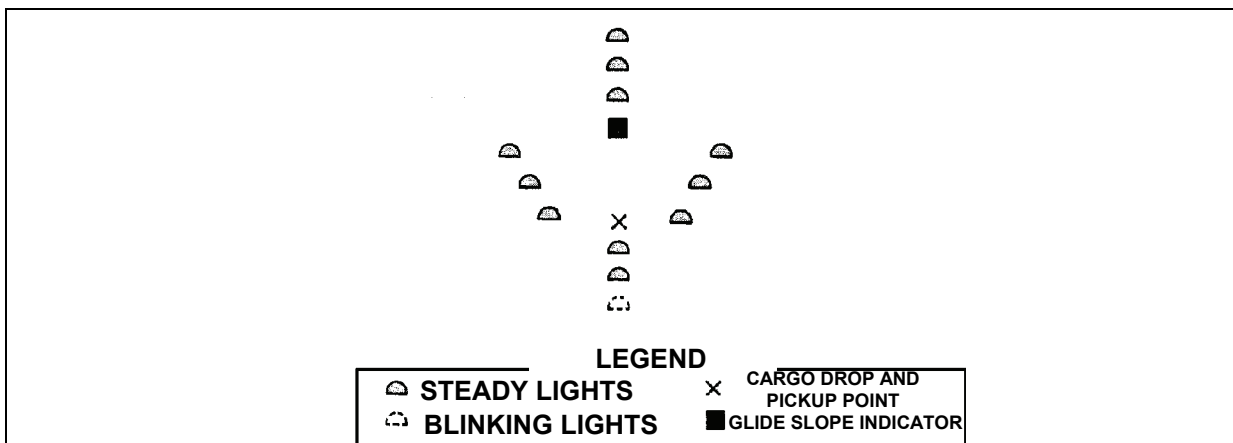

Figure 4-15. GAIL System
- Glide Angle Indicator Light (GAIL).** (USMC) The GAIL system is used whenever possible (Figure 4-15). The GAIL is positioned to project its beam along the preferred direction of approach. The glide path angle must provide clearance over the highest obstacle along the avenue of approach. Glide path angles from 3 to 8 degrees are common and acceptable. Angles greater than 8 degrees are considered too steep and could cause difficulty in maintaining the aircraft on the glide path. Since the GAIL has a narrow beam width, assist the pilot in finding it by placing additional lights in the landing site. Remember, the preferred direction of approach is into the wind. However, when the landing site size does not allow the glide path to be directed into the wind without exceeding 8 degrees, the GAIL system should be shifted left or right to a glide path of less than 8 degrees. Approach azimuth and glide path angle information are transmitted to the pilot in the briefing. When adjusting the GAIL scope, make sure that it is far enough away from the front marker lights (normally 30 meters) to give the pilot enough distance to maneuver over the landing point. It may be necessary to secure the GAIL scope to the ground using sand bags or tent pins, so that it is not blown over by the helicopter rotor wash.